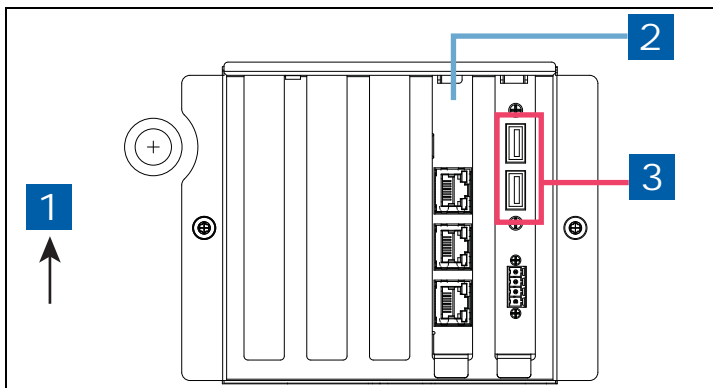

Figure 1. USB Module - USB ports
1. Beneath the left side of the 450 Plus console, locate the USB module and insert the V-R Backup thumb drive, minimum 4 GB, (P/N 332970-004) into one of the external USB ports, P/N 333477-001 (see item 3 in Figure 1).
LEGEND FOR NUMBERED BOXES IN Figure 1
3. Plug the USB Adapter into one of the two USB ports in the console's USB module (see Figure 1).